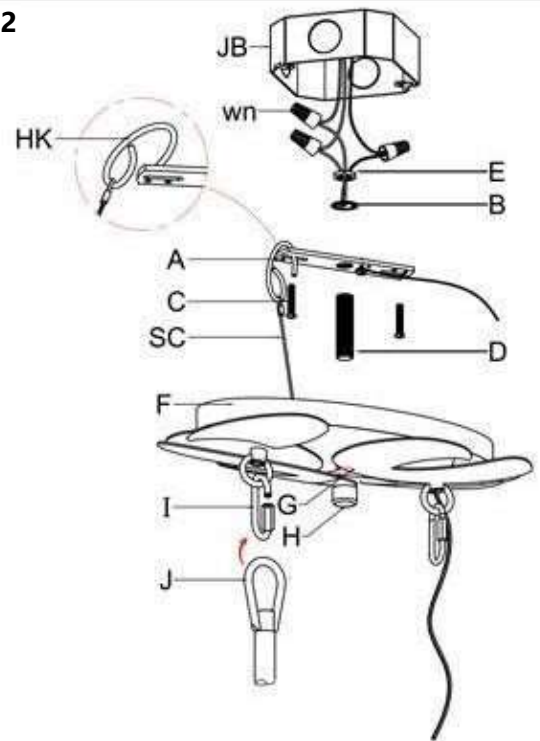

Fig. 3
CONNECTING THE WIRE (Fig. 3)
13. Connect the electrical wire as shown in Fig. 3, making sure that all the wire connectors are secured. If your junction box has a ground wire (green, or bare copper), connect fixture's ground wire to it. Otherwise connect fixture ground wire directly to crossbar (A) using green screw provided.
14. Tuck wire connections neatly into junction box (JB).
15. To mount the fixture to the ceiling, first slip the threaded tube (D) through the mounting holes (G) in the canopy (F), then thread the cap nut (H) at the end of all thread (D), and tighten.